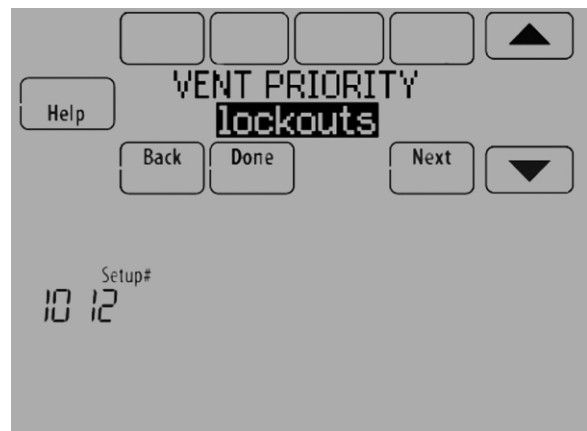

Fig. 232.
7. Select a Ventilation Priority (see Fig. 232):